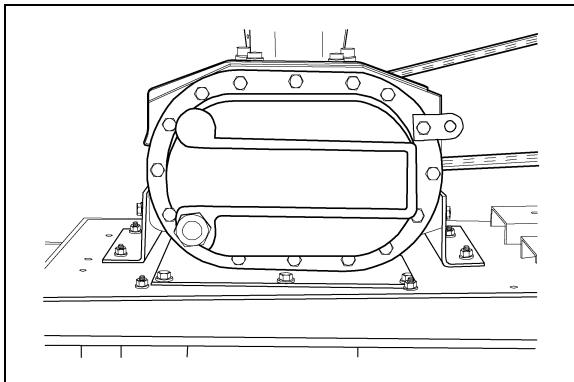

Figure 4L
7. Check the oil level of the blower. The oil level should be at the center of the sight glass. Add part number #MS5389, if required, through the breather plug on top of the blower case. (See Figure 4L). See the Maintenance Schedule on *Pages 11* for the frequency of oil changes.